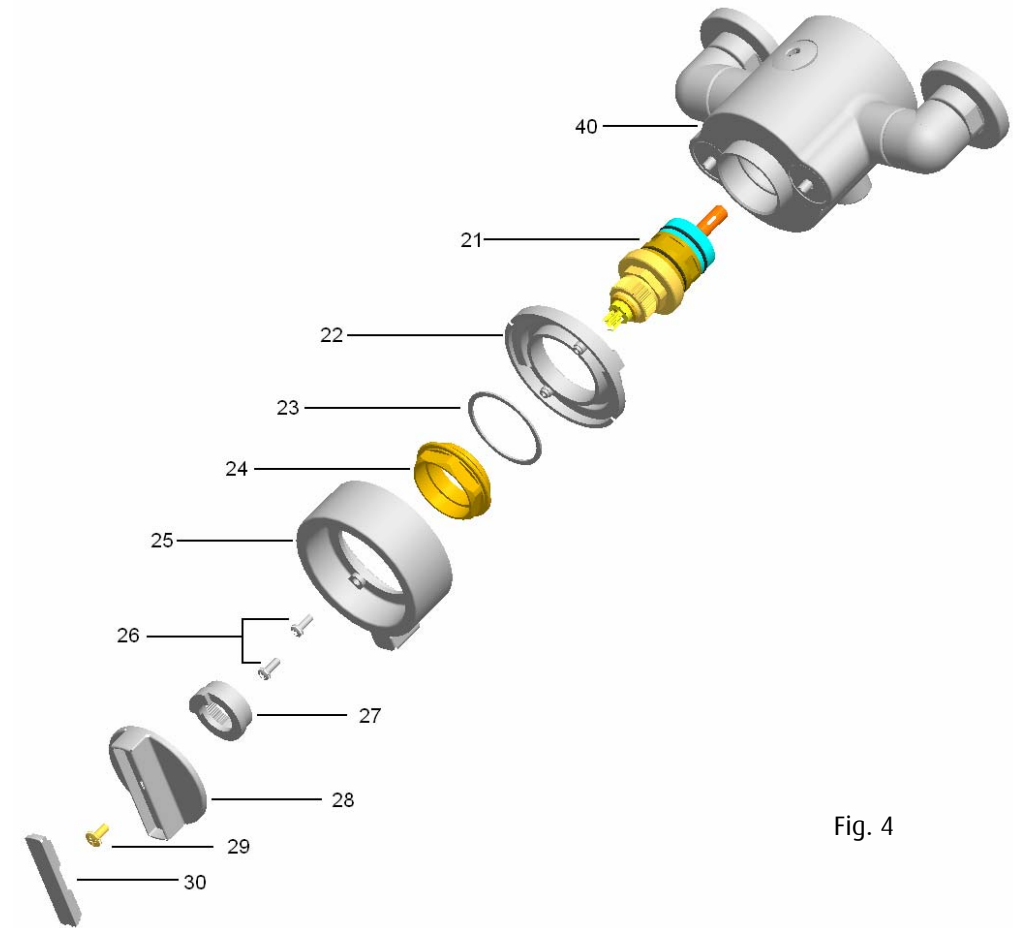

Fig. 4
8.3 Cartridge Removal (See Fig. 4).